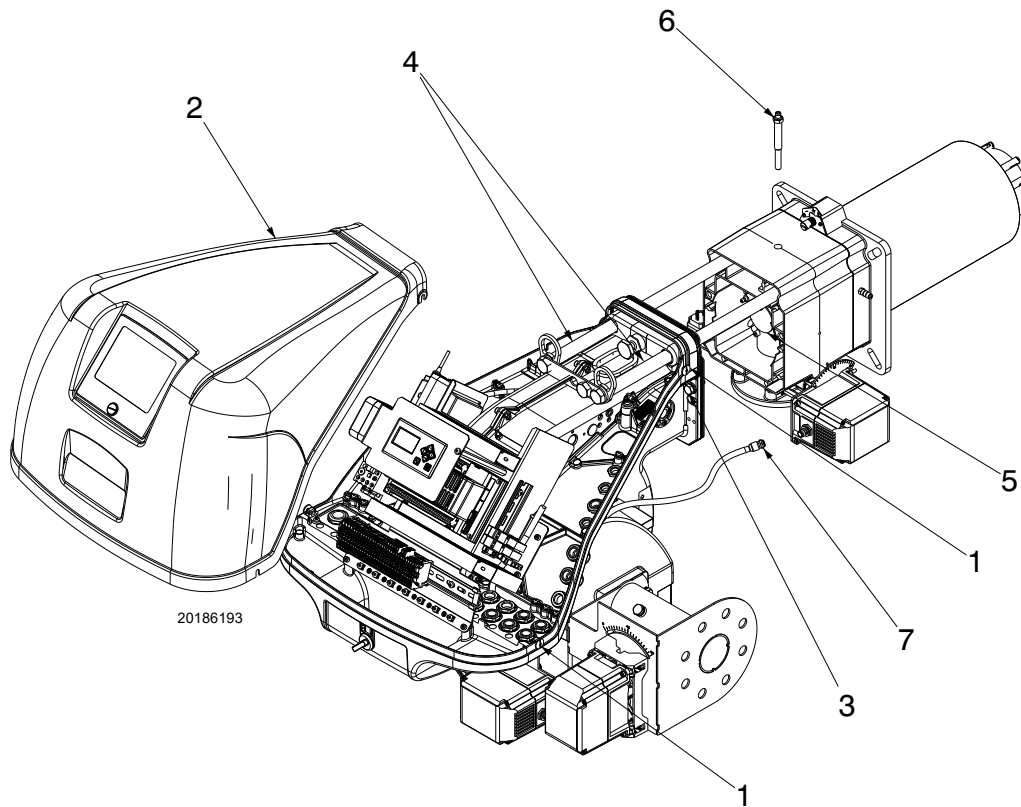

Fig. 38
Make sure that the gas outlet holes for the start-up, on the combustion head distributor, are free of dirt or rust deposits. If in doubt, disassemble the elbow (Fig. 38 on page 42).
- Loosen the 4 screws 1) (Fig. 38) and remove the hood 2).